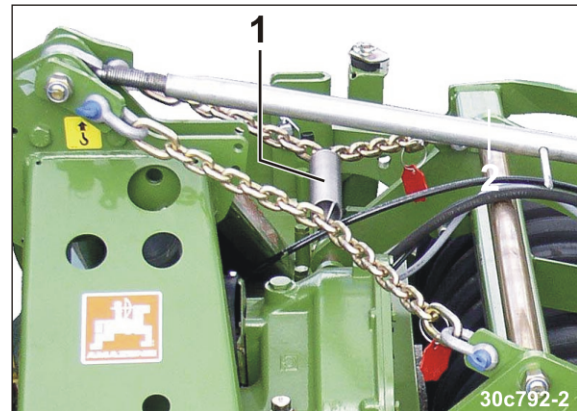

Fig. 80
6. Connect the chains using a tension spring (Fig. 80/1). When untensioned, the chains should not touch the tower of the soil tillage implement.